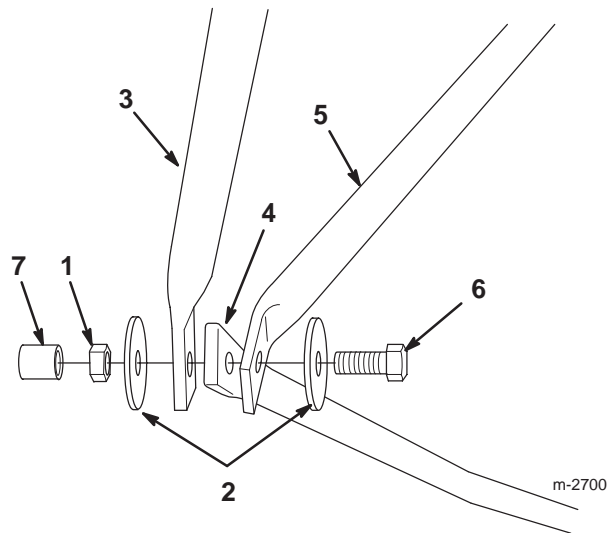

Figure 5
- Mounting bracket end (2)
- Washer (2)
- Bolt, 1/4 x 1 in. (2)
- Position the rear frame with the top tabs facing forward and the bottom ends to the outside of the other frame ends (Fig. 5).
- Locknut (2)
- Washers (4)
- Mounting bracket (2)
- End cap (2)
11. Hold the rear frame upright and tighten the locknuts (Fig. 5).
14. Tighten all fasteners securely and insert the end caps on the bolt ends that extend from the washers (Fig. 5).